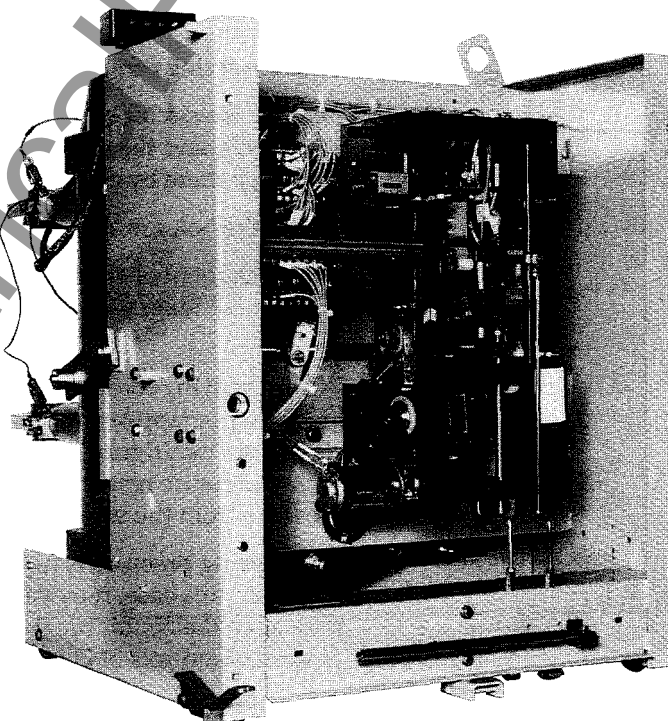

Figure 30: Continuity test device
6. Attach a continuity test device (light, bell, or ohmmeter) across each pole unit to indicate when the main contacts meet (figure 30).